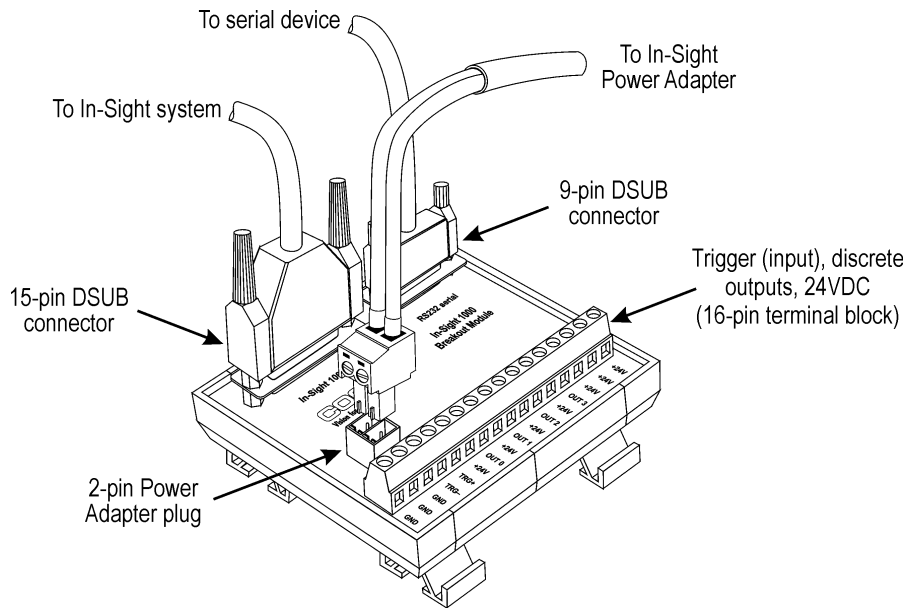

Figure C-1: Breakout Module Connections
- 6 Plug the wire leads from a 24VDC supply for the +24V power and ground into the 2-pin terminal plug on the Breakout Module. Alternatively, remove the terminal plug and insert the 2-pin power adapter plug attached to the In-Sight power adapter into the keyed power adapter port on the Breakout Module (Figure C-1).